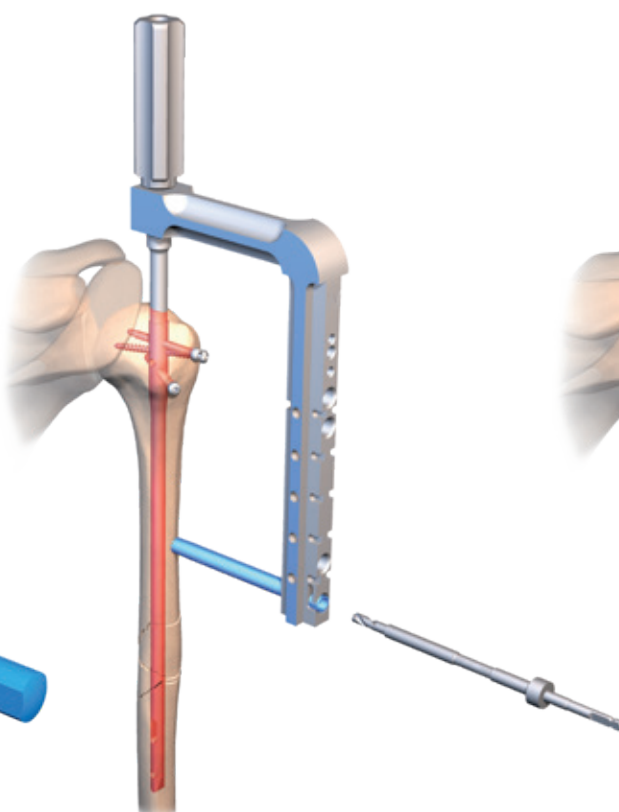

fig. 12
- Drill the outer cortex with the grey drill bit with stop (ref. 266 428) (fig.12).